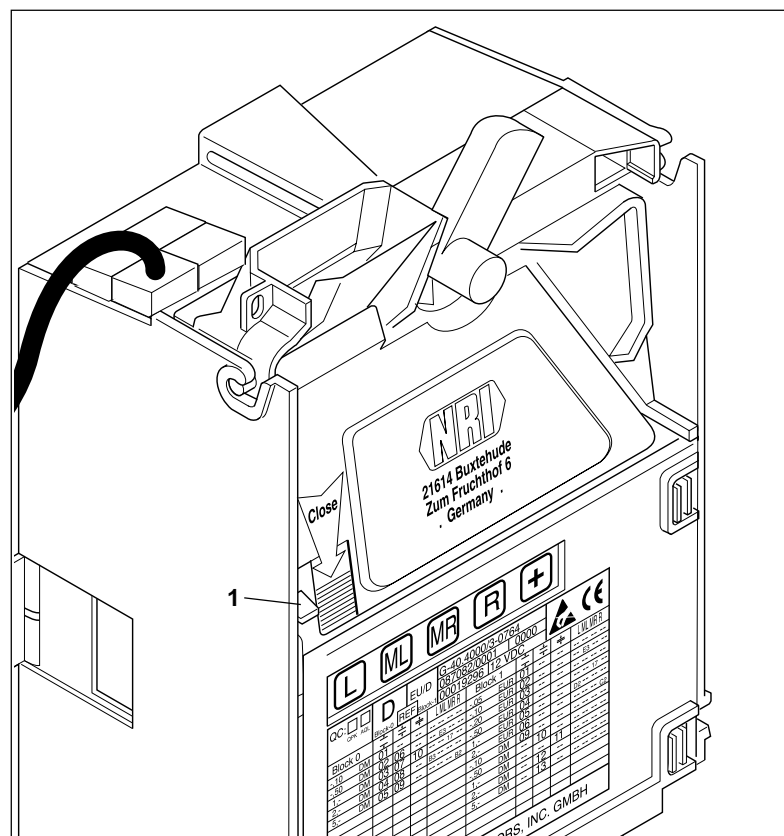

Fig. 9: Open the coin validator
2. Push lever (1) upwards and open coin validator (see fig. 9)